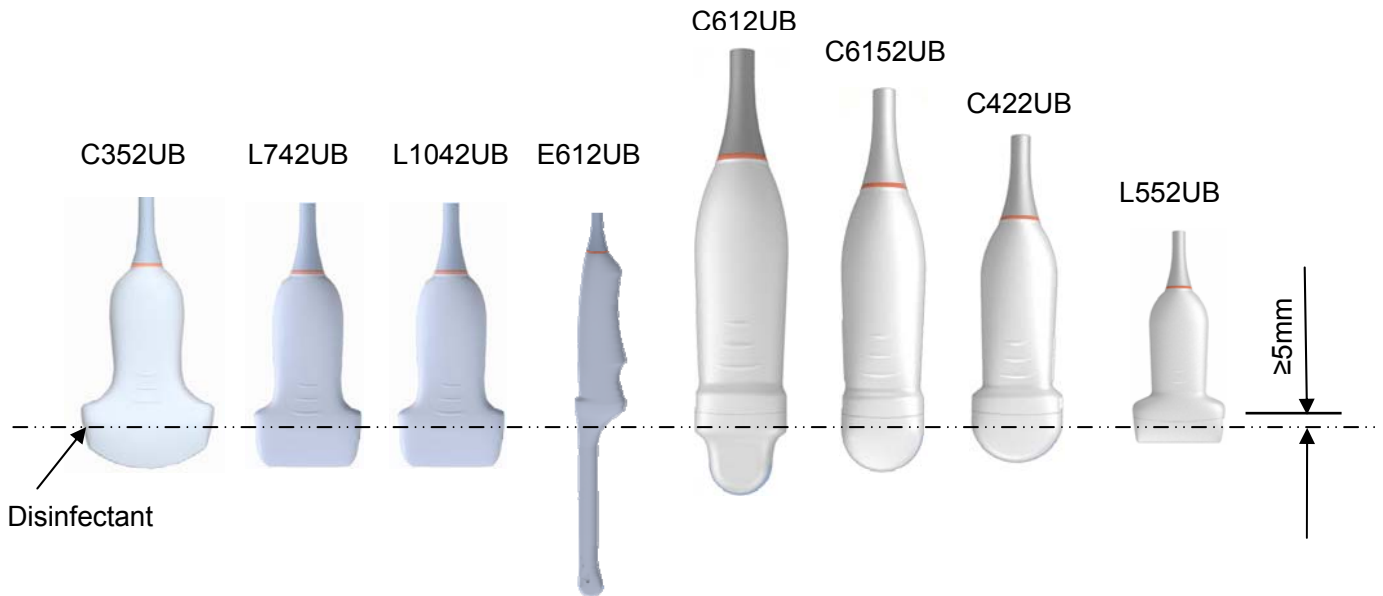

Figure 15-1 Depth of the Probe Immersed into Disinfectant
2. Place the cleaned and dried probe in contact with the disinfectant (refers to Figure 15-1 for the contacting area) for the time specified by the disinfectant manufacturer.